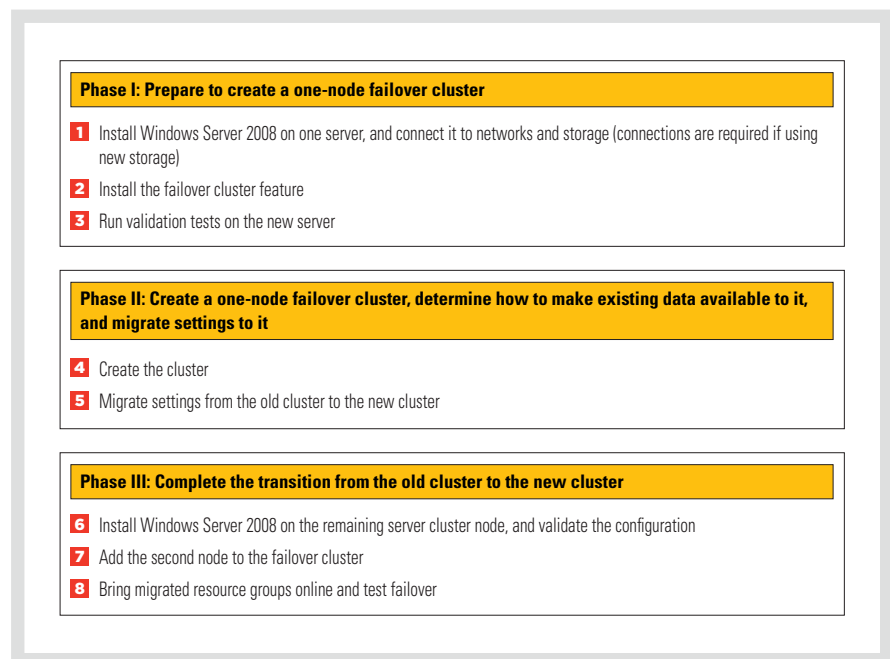

Figure 2. Process for performing an in-place migration on a two-node cluster
- **Perform an in-place migration on a two-node cluster:** In this method, administrators remove one of the servers from the existing cluster, install Windows Server 2008 on it, configure the connections, and run the Validate a Configuration wizard. They then create a single-node cluster on this server and migrate the cluster settings from the other node (running Windows Server 2003) to this new node (running Windows Server 2008). Next, they install Windows Server 2008 on the other node and run the validation tests before joining it to the first node. Finally, they bring the migrated resources online in the new Windows Server 2008 failover cluster. Provided the hardware in the existing cluster is supported for Windows Server 2008 failover clustering, this method helps minimize spare hardware requirements (see Figure 2).²